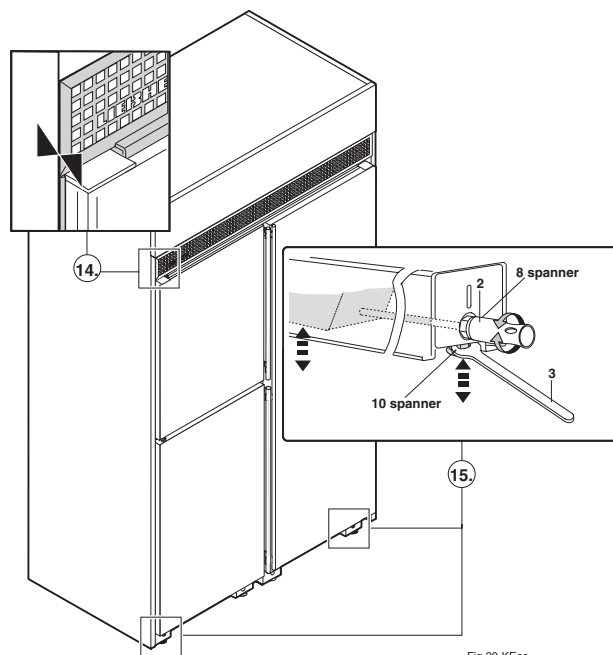

Figure 23
14. **Figure 23:** Carefully slide the connected appliances into the recess until the ventilation grille touches the top.
15. Align the appliances by using only the outer leveling wheels at the front (3) and rear (2).